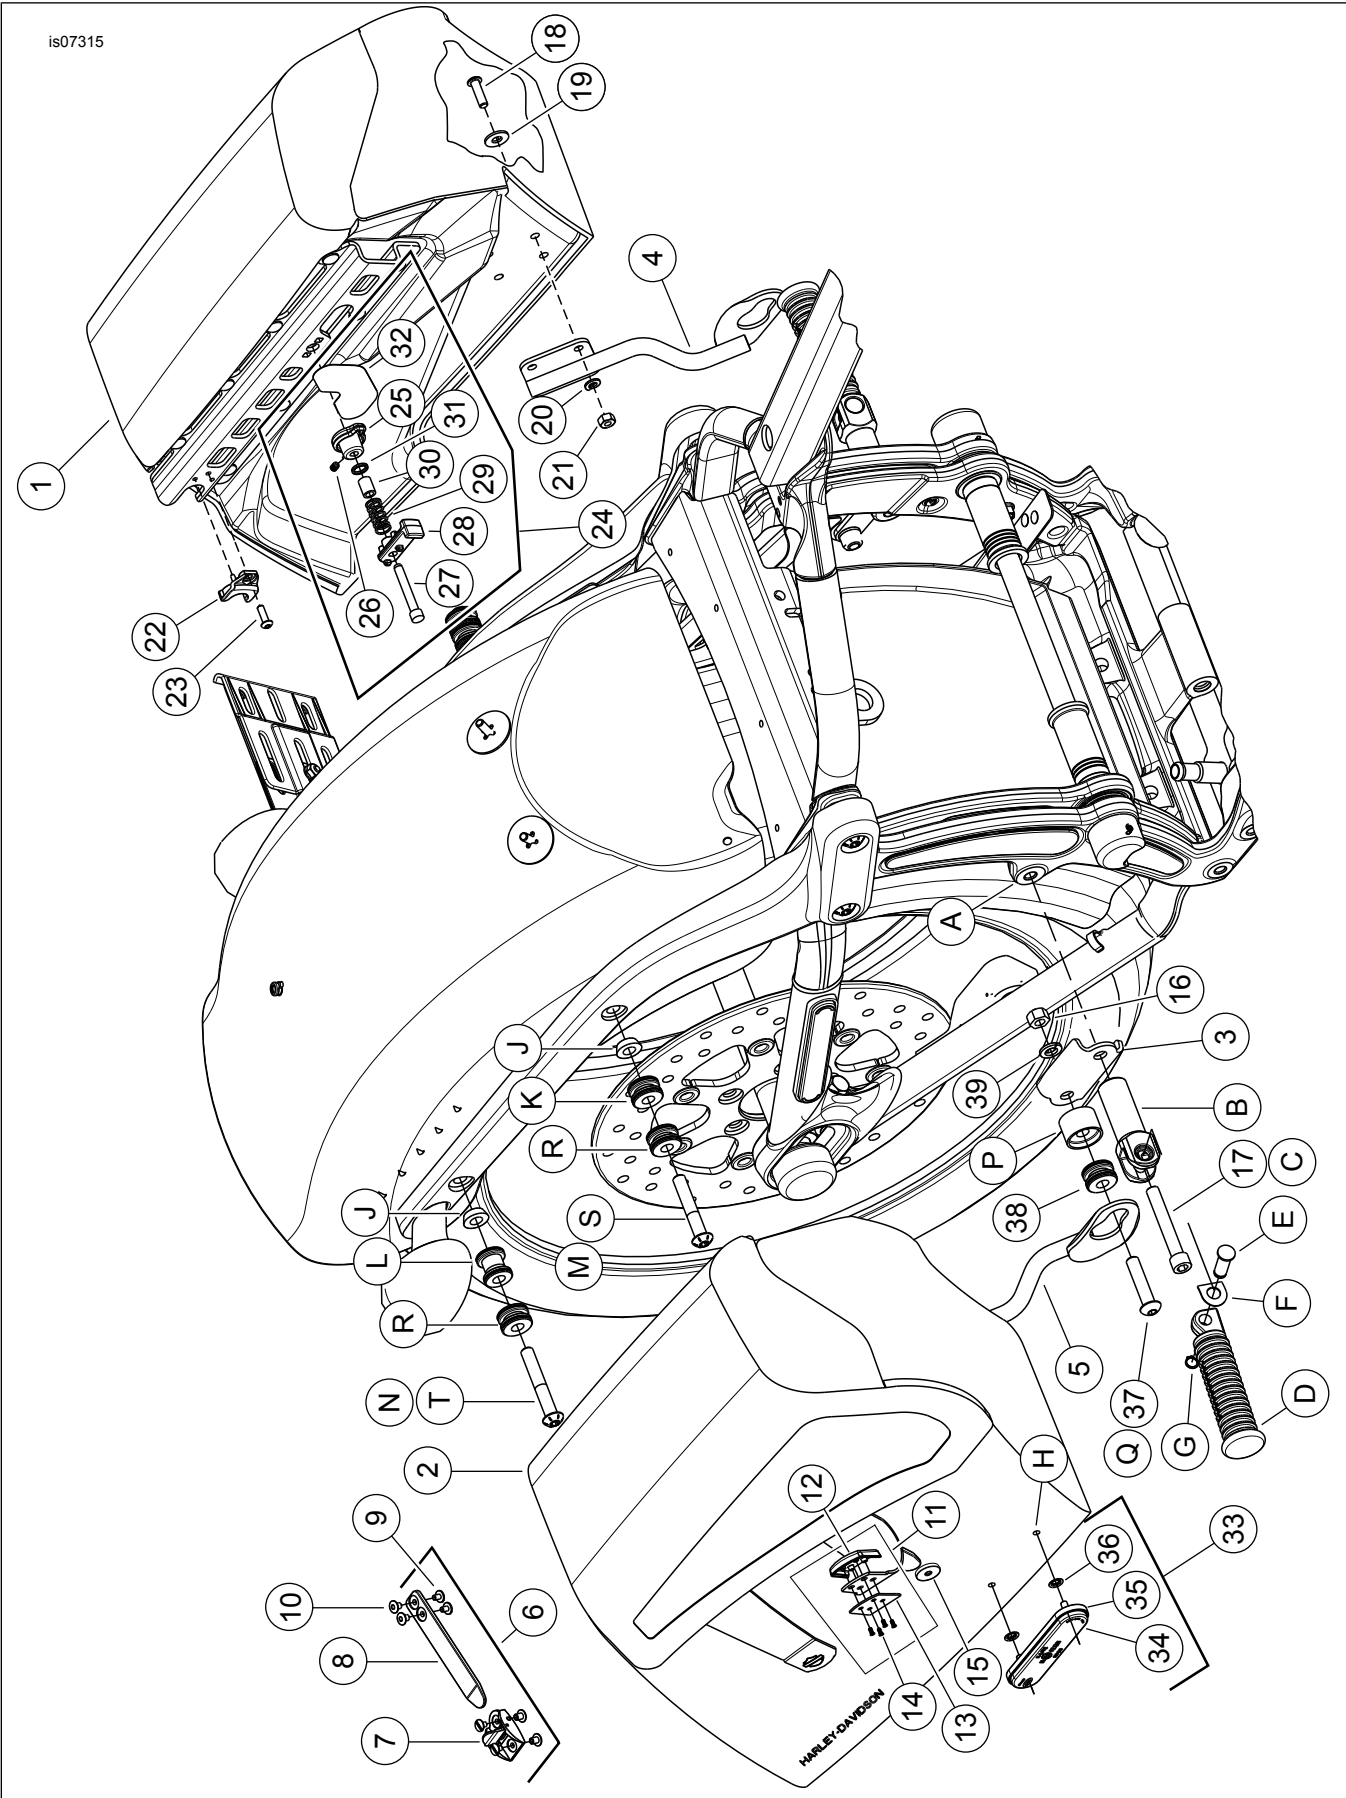

Figure 2. Service Parts: FXSB/SE Detachable Saddlebags
2. See Figure 2. Align support arm (4) with the four mounting holes of the left saddlebag (1).
3. Secure support arm (4) to saddlebag (1).
- a. Insert screw (18) through washer (19) and support arm (4) from inside the left saddlebag (1).
- b. Secure the screw with lockwasher (20) and hex nut (21). Tighten finger-tight. Do not fully tighten at this time.
4. Repeat procedure for right saddlebag (2) and support arm (5).
1. See Figure 2. Position reflector mount (35) near either the lower, forward side of saddlebag or rearward, just above the Harley-Davidson® logo.
3. Clean the surface of the reflector mount (35) where reflector will be installed with soapy water or a mixture of 50-70% isopropyl alcohol and 30-50% distilled water. Allow to dry thoroughly.
4. Remove the liner from the adhesive backing of the reflector (34). Carefully position the reflector to the reflector mount, and press firmly into place. Hold the reflector in position with steady pressure for at least one minute.
6. Install reflector mount (35) on saddlebag using two push nuts (36). The push nuts are installed from inside the saddlebag.
1. See Figure 2. Insert the posts of the rear docking spacer (22) into the rear of the saddlebag bracket.
2. Apply a small amount of Loctite 243 - Blue to the threads of screws (23) approximately 3–6 mm (1/8–1/4 in) from the screw head.
2. See Figure 2. Pull on knob (25) (located near the center, inside saddlebag) and rotate it towards front of saddlebag .
- Tighten 3rd point screws (Figure 2, item 18) to 6.8–10.2 N·m (60–90 in-lbs).
- Tighten footpeg mount screws (Figure 2, item 17) to 33.9–40.7 N·m (25–30 ft-lbs).